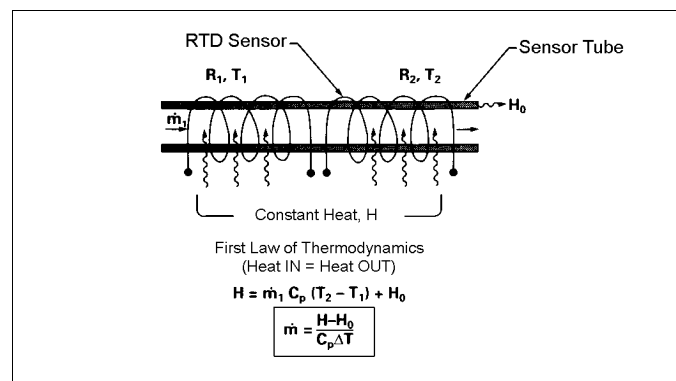

Figure 1-2. Flow Measuring Principle
Figures 1-2 and 1-3 show the mass flow through the sensor tube as inversely proportional to the temperature difference of the coils. The coils are legs of a bridge circuit with an output voltage in direct proportion to the difference in the coils' resistance; the result is the temperature difference (ΔT). Two other parameters, heat input (H) and coefficient of specific heat (C_p) are both constant. The resulting output is nearly linear over the transducer's normal operating range.